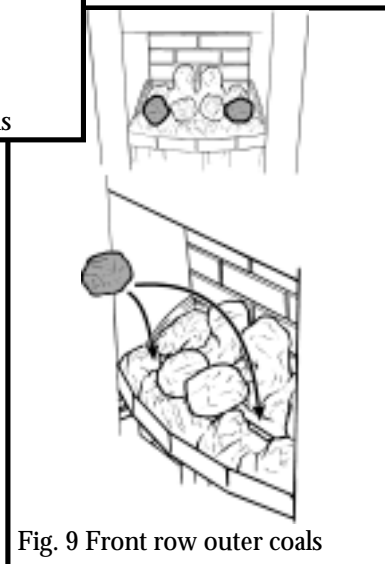

Fig. 9 Front row outer coals
5.2. Place two of the remaining coals in the two outer valleys of the front coal (One each side of the large coals) (See figure 9). Place the left side coal so that you will be able to see the pilot flame below the coal.